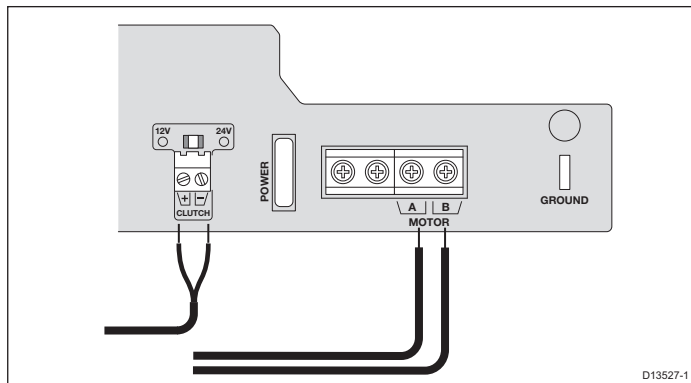

Figure 8: Cable connections at SPX or ACU course computer
4. Connect the cables to the course computer (see *Figure 8*):